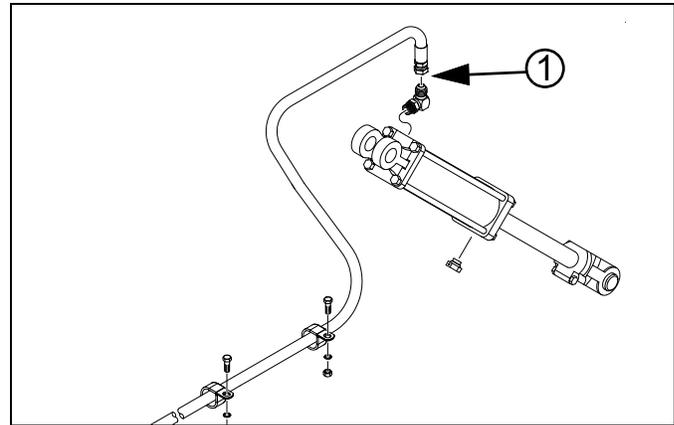

Figure 36
6. Crack (slightly loosen) JIC connection ① at elbow fitting. Refer to Figure 36